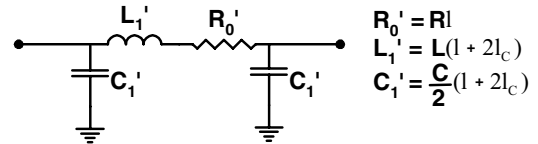

Figure 13b: Equivalent circuit of chip resistor
The equivalent circuit then becomes that shown in **Figure 13b**. (We neglect, as earlier, G compared to ωC .) Note that the circuit contains both inductance and capacitance parasitics, though most vendors electrically characterize a chip resistor only by the latter. C_1' is then given by half the value calculated in (14), while L_1' is given by